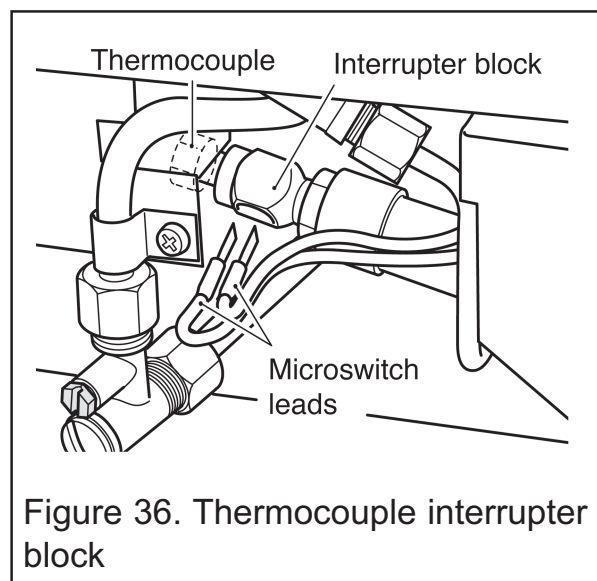

Figure 36. Thermocouple interrupter block
The control position markings on the fascia are shown in figure 36.
2. Disconnect the leads from the ignition microswitch (The lower of the two microswitches - See figure 36).